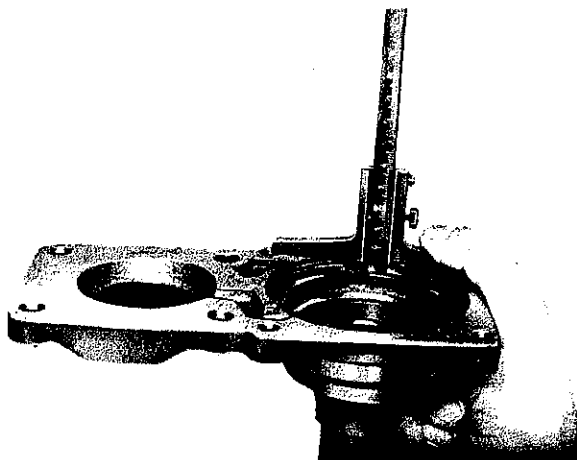

Fig. 57
3. Determine depth of pertinent recess in guide flange (Fig. 57).